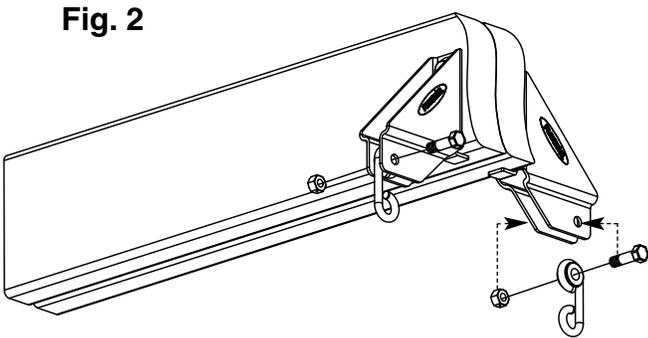

Fig. 2
3. Install swing hangers to bracket using $\frac{3}{8}$ " x $1\frac{1}{4}$ " hex head bolts and lock nuts as shown. Tighten with $\frac{9}{16}$ " wrench and socket wrench. (Fig. 2)